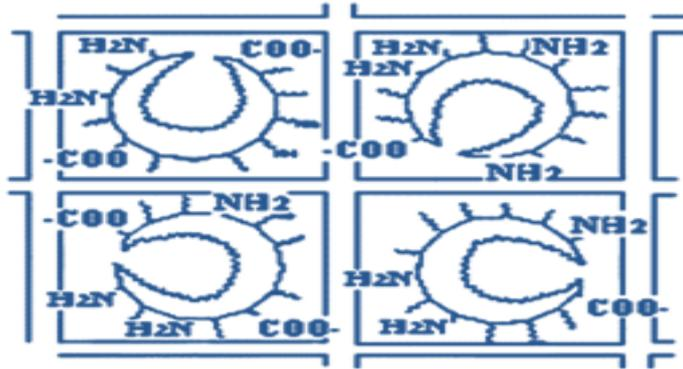

Fig. 8.4: Immobilization of enzyme by entrapment
- **Entrapment:** Cell entrapment can be achieved through immobilization in the presence of porous matrix (gel entrapment) or by allowing the cells to move into performed porous matrix (Fig.8.4).